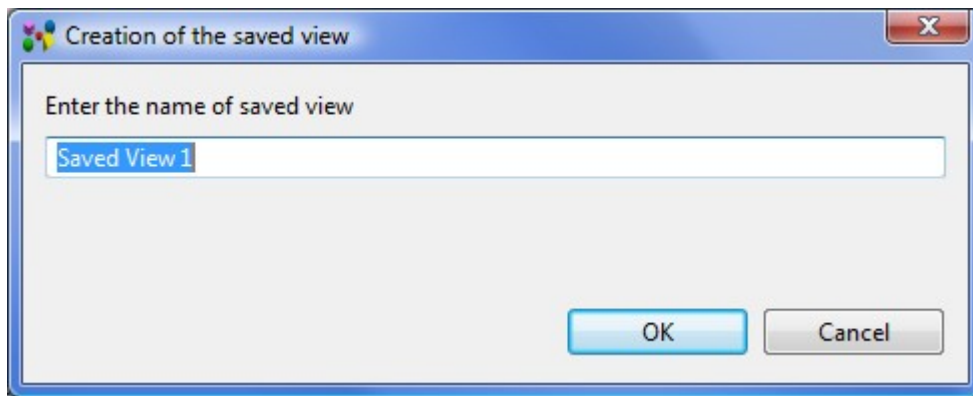

Figure 2. Creation of the saved view dialogue window
- The **Creation of the saved view** dialogue window appears (see Figure 2):